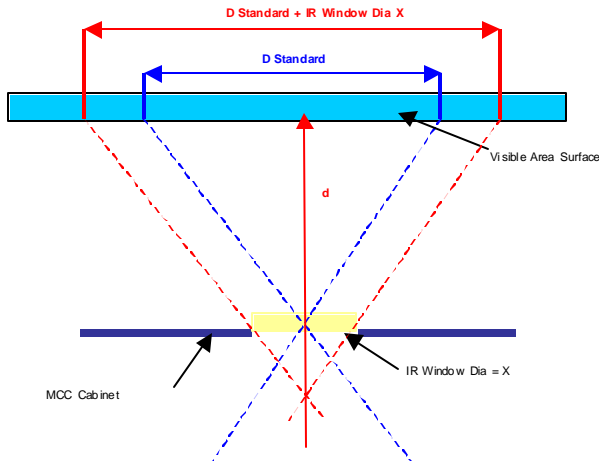

Fig. 3
A very important point to note when you calculate an FOV is that the distance from the cover to the target (d) comes back to a single point (see fig. 3) and does not take into account the size of the window, camera detector array, etc. This means that if you calculate the FOV at 2.8 inches, using an IR window of 2 inches would give you a target (D) of approximately 4.8 inches, moreover a 4 inch IR window would give you a target (D) of approximately 6.8 inches.